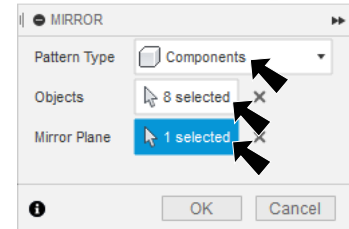

Fig. 38
Step 3. In the Mirror panel set, **Fig. 38**